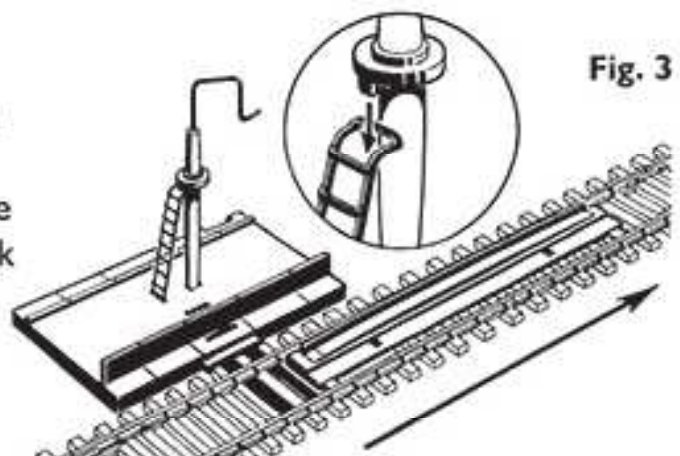

Fig. 3
3. Fit the pick-up hook base to the track in the position shown in Fig.2. Fit one operating ramp between the track rails so that the raised side of the ramp section is to the **left** of the approaching train, and its relation to the pick-up base is exactly as shown in Fig.3. Press the ramp firmly down so that the two small clips on its underside grip the track sleepers. **Make sure that the sprung section is free to rise and fall easily.** Fit the pick-up hook post and ladder onto the base as shown in Fig.3.